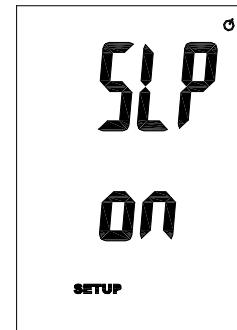

Fig. 6
1. While in Setup mode, press **▲/T1-T2** or **Hold/▼** button to scroll to the “SLP” option screen (Fig. 6).